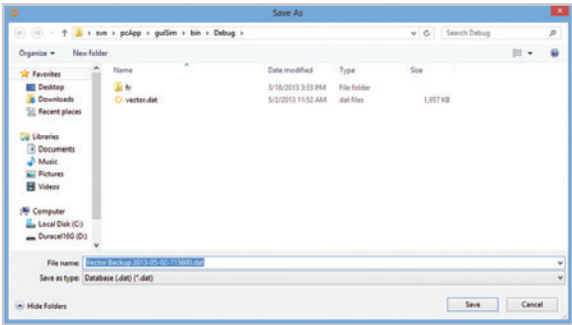

Figure 11-7: Backup Database Save As Window
4. A Save As window will appear. The content will be save as a ".dat" file. Select the location to store the file, name the file and press the Save button. See Figure 11-7.